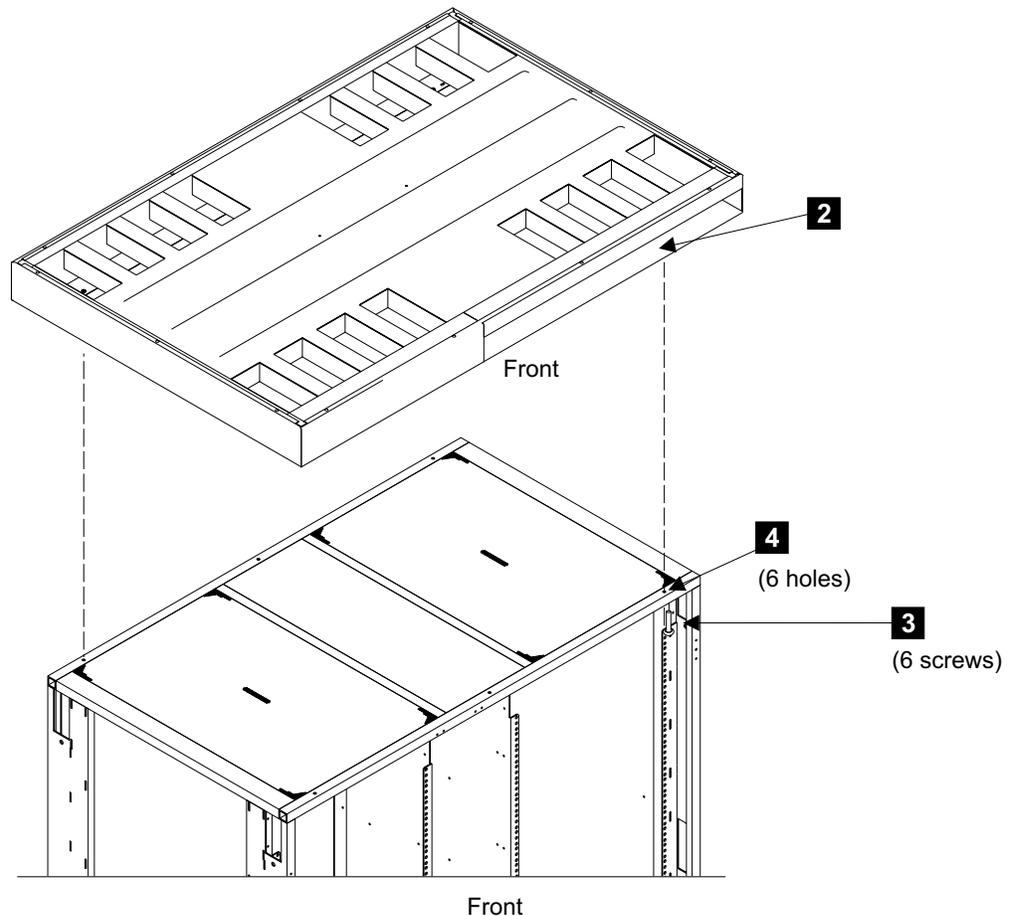

Figure 214. Top Hat Installation (S008583p)
- a. Lift the top hat onto the top of the 2105 Model Exx/Fxx, position it with the side opening **2** [Figure 214] to the front of the 2105.